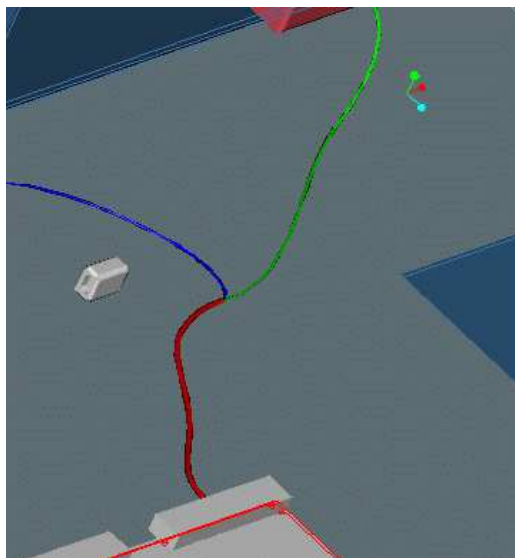

Figure 3
3. Since the colors defined in the spool have been saved in the appearance file, these colors will be used in the display when the cable and its individual conductors are routed, as shown in Figure 3.